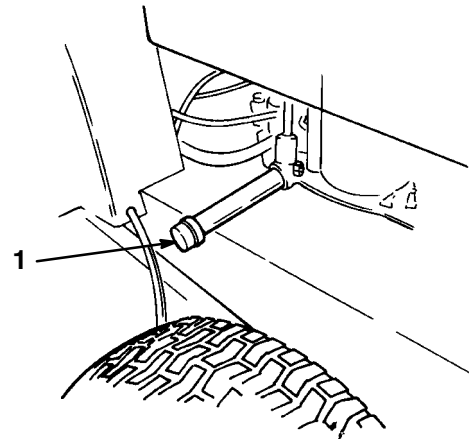

Figure 17
3. Place a pan below the drain plug (Fig. 17). Remove drain the plug. Allow all of the oil to flow into the drain pan. When the oil has drained completely, install the drain plug.